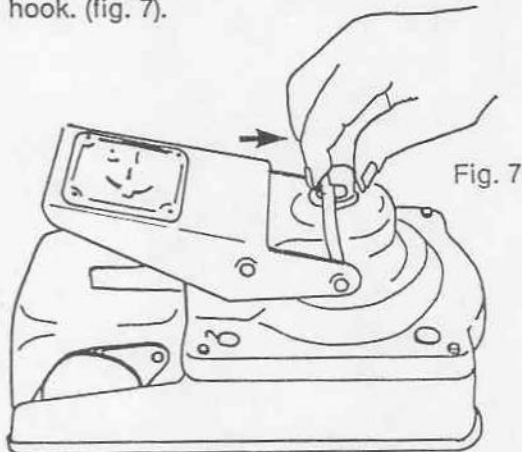

Fig. 7
- Push the coupling link on the pedal into the pump rod hook. (fig. 7).